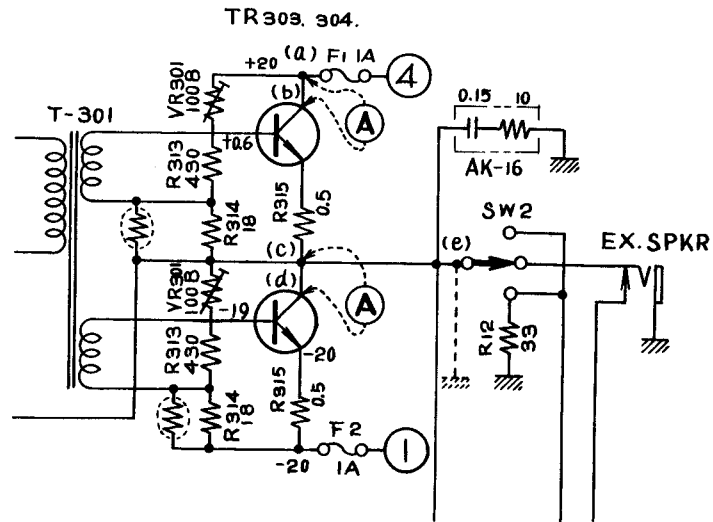

Fig. 5
4. ADJUSTMENT OF D.C. COLLECTOR CURRENT FOR POWER TRANSISTORS 2SC-490 WITH NO INPUT SIGNAL (SEE FIG.5)